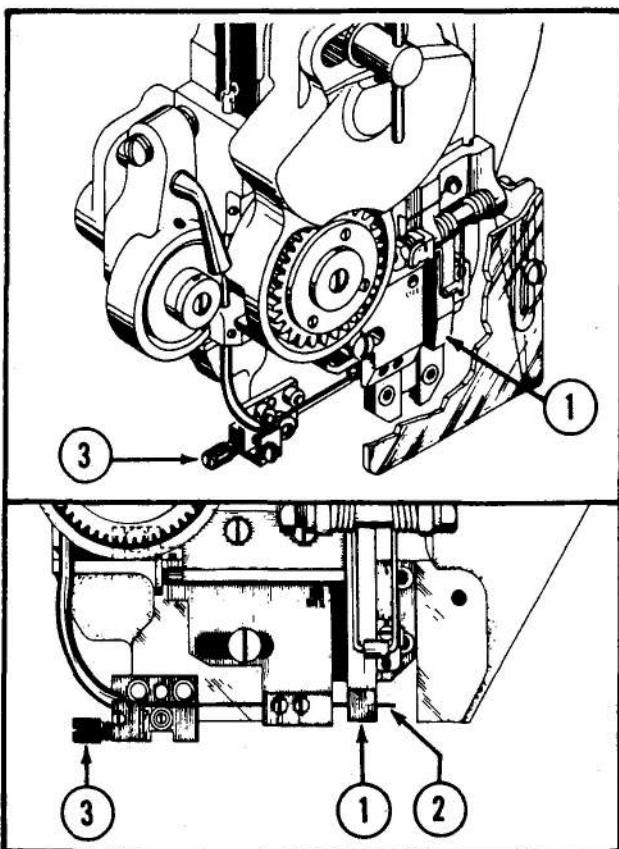

Figure 3—Straightening Wire on Head
g. Lower oiler retainer top position above end of upper wire tube. Reengage wire feed gears by lowering the gear throwout handle (1) to its locked position. Place a piece of work to be stitched into the machine; then turn over machine by hand, and observe that the wire is feeding freely and is being fed into the gripper (10) in a straight line. (Refer to para. 2, immediately following).
2. HOW TO STRAIGHTEN WIRE ON HEAD (See Fig. 3)
a. After wire has been threaded into head, as directed in para. 1, immediately preceding, turn over machine by hand until wire has been cut and is being held by the gripper (1). Observe that the wire length being held by the gripper does not curl upward or downward; the cut wire length should be as close to a straight line as possible, as shown at (2) in insert in Fig. 3.